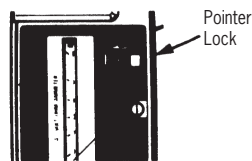

Fig.8
- Slide the pointer lock button to the left. This allows easy readings in dimly lit or crowded cable areas (Fig.8).